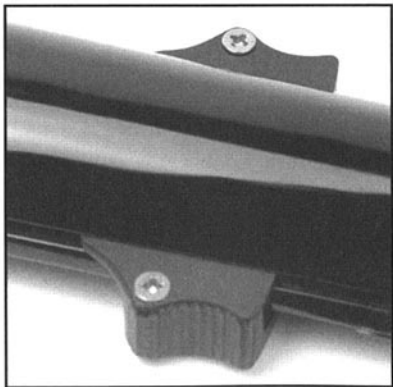

Figure 13
- The downward pressure of your TranScale capo is preset at the factory and should not require additional adjustment. However, over time as the capo roller wears or if you change string gauges and instrument set-up, periodic adjustment might be necessary. To adjust the downward pressure of the capo, tighten or loosen the 2 Phillips head screws located on the back of the capo. (Figure 13)